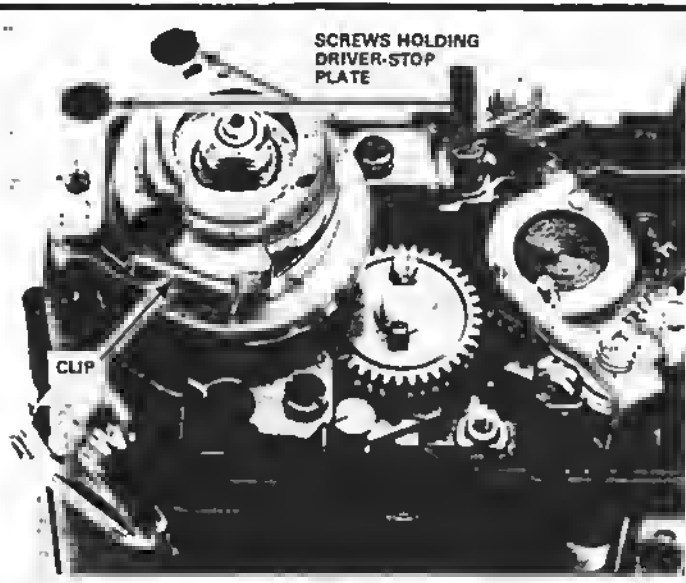
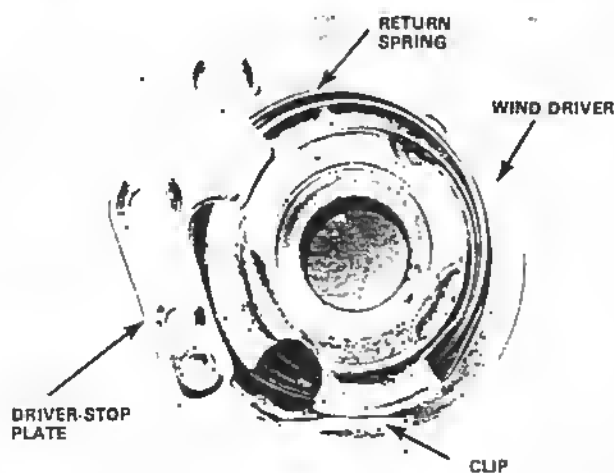
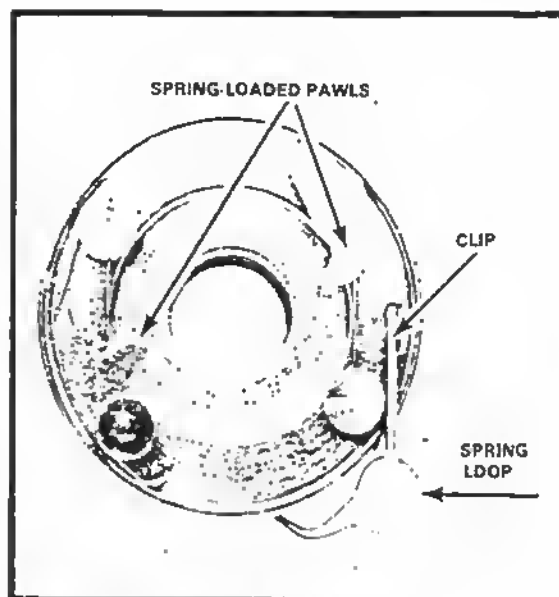
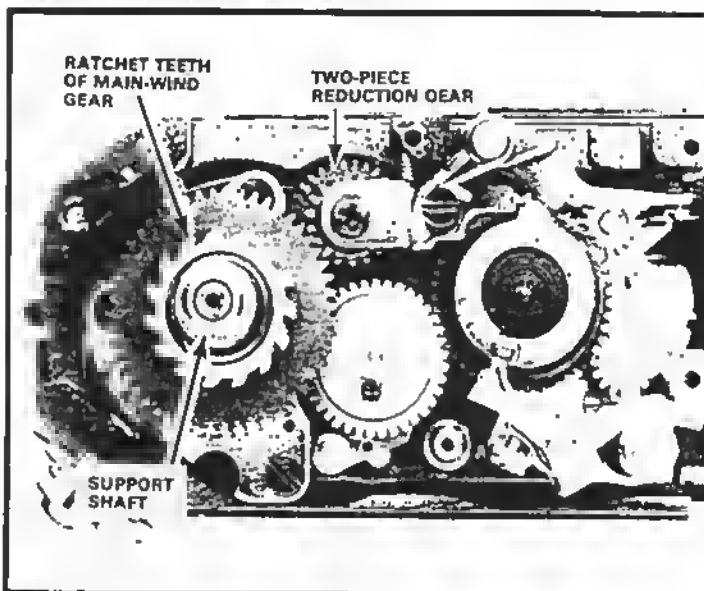

Figure 129
Figure 130
Figure 131 Bottom of wind driver
Figure 132
In Fig. 129, we've inserted the retaining clip. One end of the clip passes into the wind-driver hole; the other end passes into the loop at the end of the return spring. Your retaining clip doesn't have to be especially strong -- you can even use a chunk of a paper clip.
Now, remove the two screws, Fig. 129, and lift out the wind driver and the driver-stop plate as one assembly, Fig. 130. If you ever have to replace a wind driver, the return spring comes already tensioned, Fig. 131. Notice that Pentax installs the spring-retaining clip from the underside of the wind driver. Just hook the spring loop to the driver-stop-plate lug. Then, remove the spring-retaining clip to replace the assembly.
Also notice the two spring-loaded pawls on the underside of the wind driver, Fig. 131. These pawls engage the ratchet teeth of the main-wind gear, Fig. 132. As the wind driver rotates in a counterclockwise direction, the pawls turn the main-wind gear. But as the wind driver returns to the ready position, the pawls ride freely over the ratchet teeth.
Notice that the main-wind gear engages the upper teeth of the two-piece reduction gear, Fig. 132. The lower teeth of the reduction gear engage the lower transport gear. Turning the main-wind gear then rotates the two-piece reduction gear. And the two-piece reduction gear turns the transport ("spill") gears to wind on the curtains.
**REASSEMBLY:** Make sure you thoroughly clean the bearing surfaces of the support shaft, Fig. 132. Also clean the main-wind gear and the wind driver. Dirt on the bearing surfaces -- or a lack of lubrication -- results in a rough wind stroke.